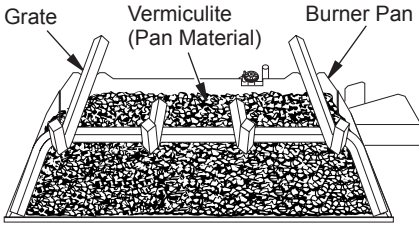

Figure 22 - Fill Entire Burner Pan with Vermiculite (P325/VP325 Models Shown)
1. Open the bag(s) of vermiculite and fill the entire burner pan until the burner tube is completely covered (see Figure 22, page 15).